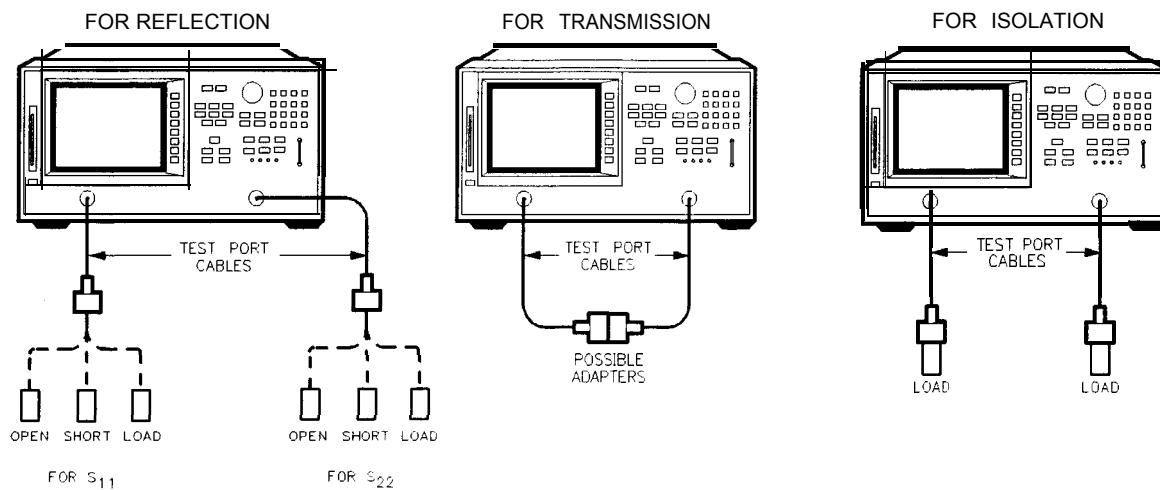

Figure 5-7. Standard Connections for Full Two port Error-Correction
15. Make a “thru” connection between the points where you will connect your device under test as shown in **Figure 5-7**.